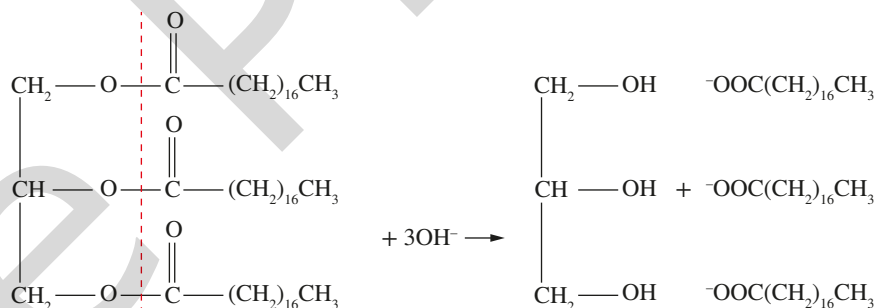
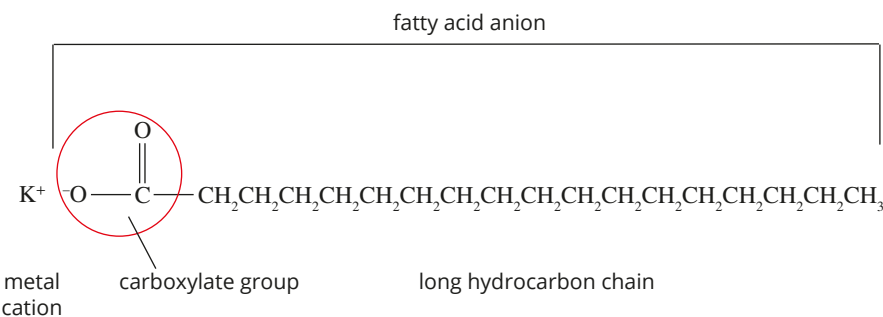

FIGURE 16.2.2 Base hydrolysis breaks the three ester bonds on the triglyceride along the dotted red line.
FIGURE 16.2.3 A soap, potassium stearate. Potassium stearate is described as the potassium salt of stearic acid.
To synthesise soap from a triglyceride, the ester bonds must be broken. In theory, water can be used for this reaction. Reactions in which water is used to break down a compound are known as **hydrolysis** reactions. In practice, the reaction with water is very slow, so a strong base such as sodium hydroxide or potassium hydroxide is used. The reaction with water under alkaline conditions is known as **base hydrolysis**. When base hydrolysis is applied specifically to esters, it is called **saponification** (Figure 16.2.2).
It is the fatty acid ion, combined with the metal ion from the base used for hydrolysis, that makes up the soap. For example, the soap potassium stearate (Figure 16.2.3) is formed when the triglyceride in Figure 16.2.2 reacts with potassium hydroxide.
- long hydrocarbon chain. This part of the soap is non-polar. In potassium stearate (Figure 16.2.3), the hydrocarbon chain is an alkyl group because the hydrocarbon is saturated.
- **carboxylate** ion (COO^-) attached to the hydrocarbon tail. This is often referred to as the 'head' of the soap and is **polar**, meaning there is an uneven distribution of charge in this part of the soap. Carboxylate ions are the conjugate bases of carboxylic acids. In Figure 16.2.3, the stearate ion is the conjugate base of stearic acid ($\text{CH}_3(\text{CH}_2)_{16}\text{COOH}$).